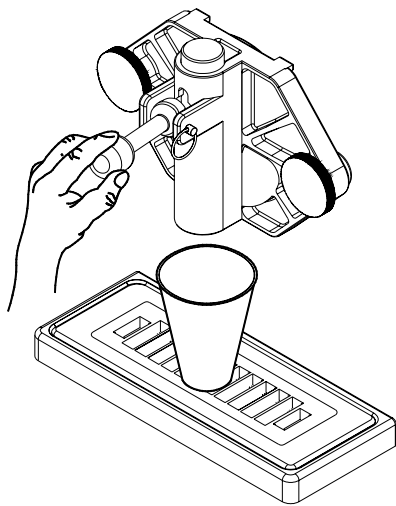

Fig. 5
1. Fill the machine with cold water and set each control switch to the “**CLEANOUT**” position. **DO NOT** use hot water which could damage the machine. Let the machine agitate 1 to 2 minutes, then drain the water by pulling downward on the spigot handle (Fig. 5). Repeat the above procedure as necessary to make certain all product is removed from the machine. After the machine is empty, set each control switch to the “**OFF**” position.